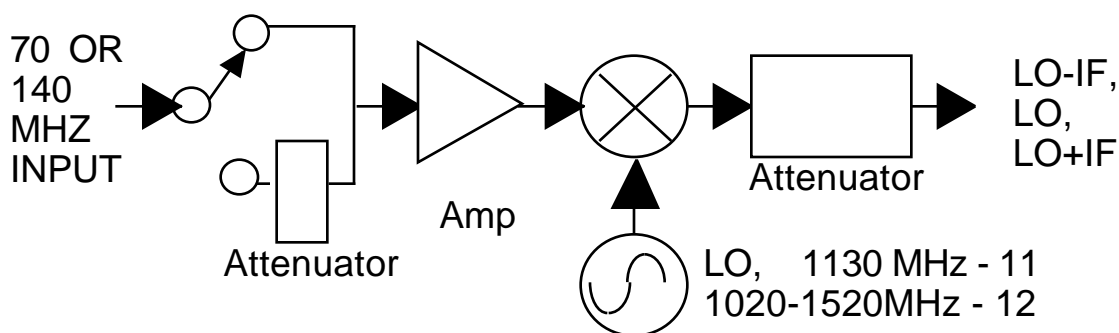

FIGURE 3.1 BLOCK DIAGRAM
3.1 Block Diagram Description - 2006-11, -12 (Figure 3.1) -